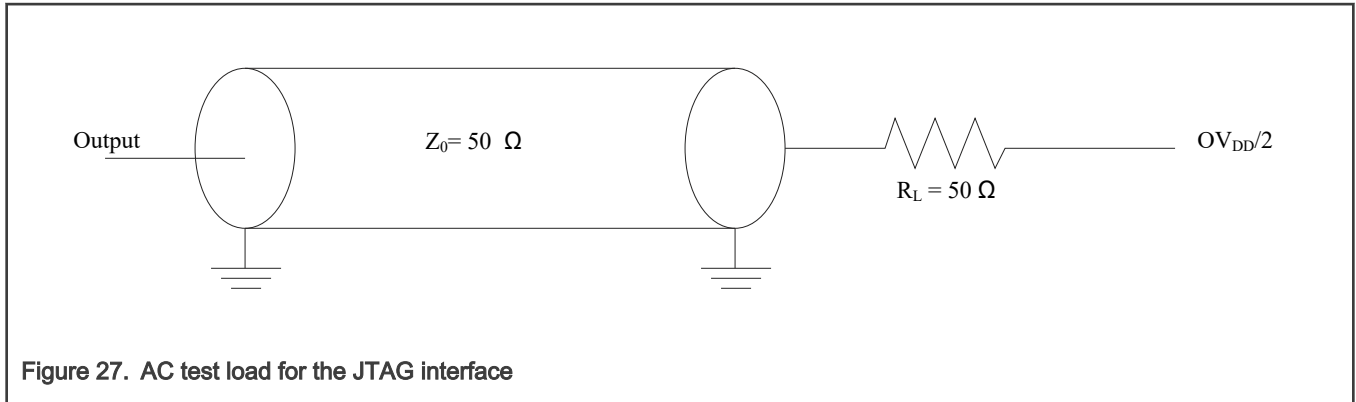
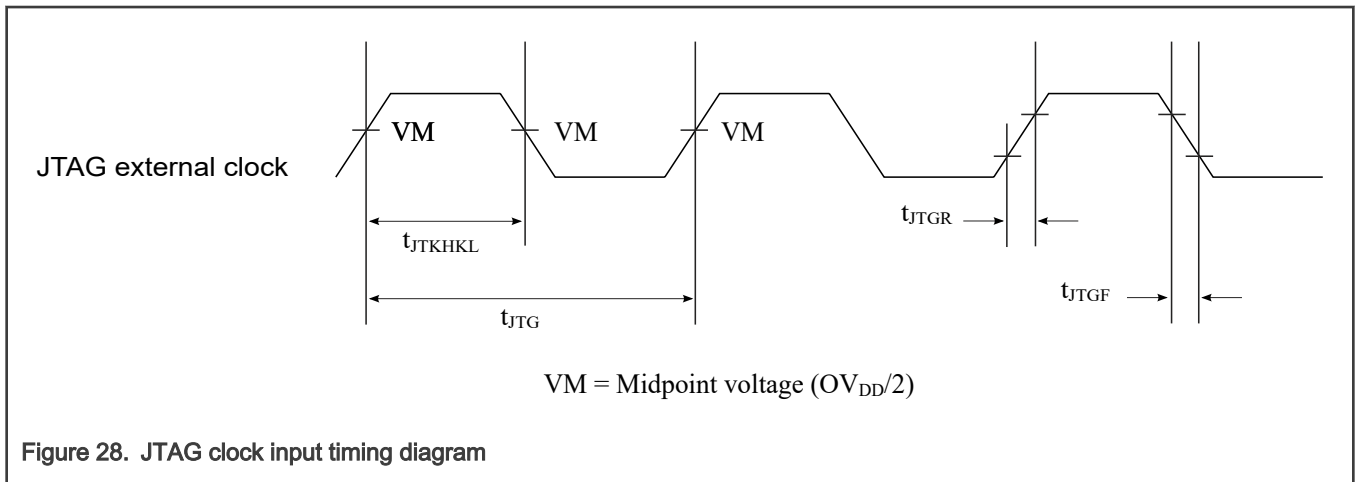
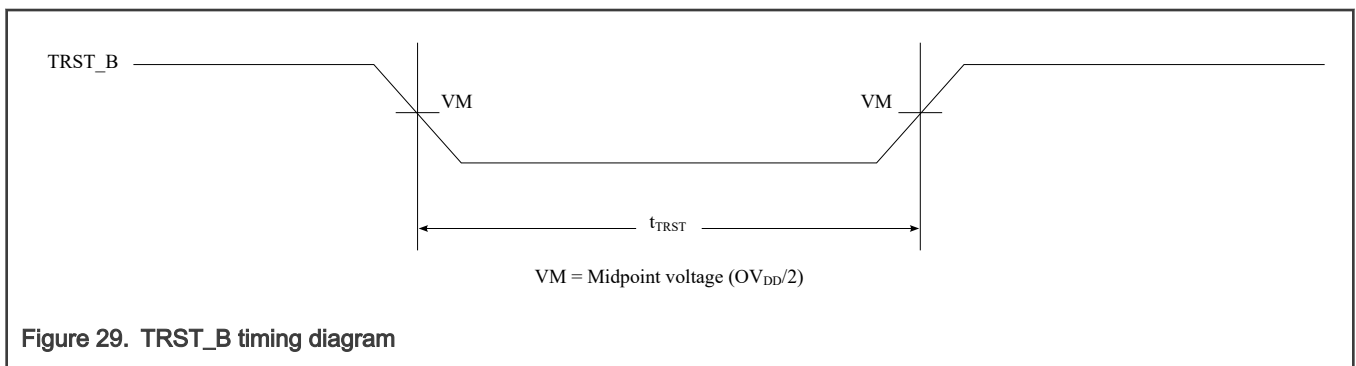
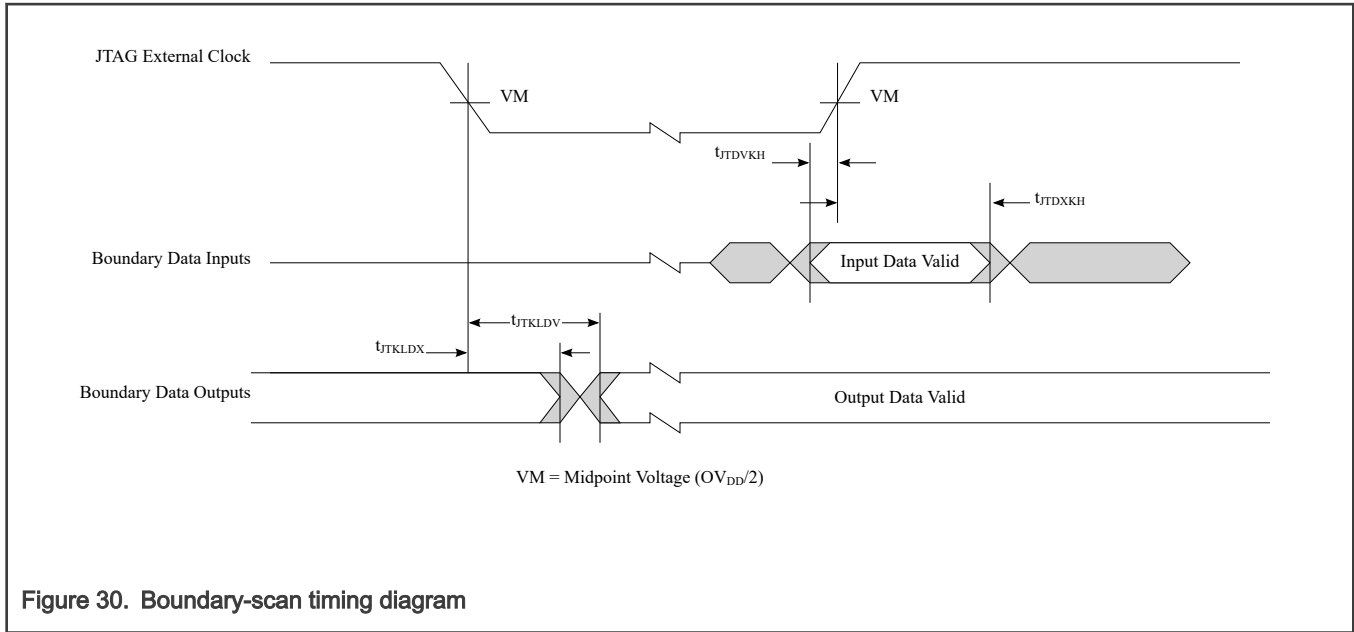

Figure 27. AC test load for the JTAG interface
Figure 28. JTAG clock input timing diagram
Figure 29. TRST\_B timing diagram
Figure 30. Boundary-scan timing diagram
This table provides the JTAG AC timing specifications as defined in Figure 27, Figure 28, Figure 29, and Figure 30.
3. The symbols used for timing specifications follow these patterns: t(first two letters of functional block)(signal)(state)(reference) (state) for inputs and t(first two letters of functional block)(reference)(state)(signal)(state) for outputs. For example, tJTDVKH symbolizes JTAG device timing (JT) with respect to the time data input signals (D) reaching the valid state (V) relative to the tJTG clock reference (K) going to the high (H) state or setup time. Also, tJTDXKH symbolizes JTAG timing (JT) with respect to the time data input signals (D) reaching the invalid state (X) relative to the tJTG clock reference (K) going to the high (H) state. Note that, in general, the clock reference symbol representation is based on three letters representing the clock of a particular function. For rise and fall times, the latter convention is used with the appropriate letter: R (rise) or F (fall).
4. See Figure 27.
5. See Figure 28.
6. See Figure 29.
7. See Figure 30.